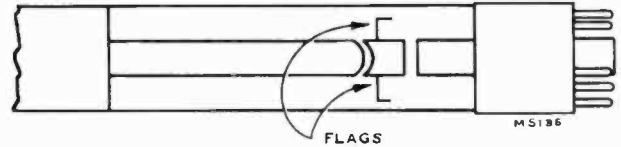

Figure 5—Ion Trap Flags
**ION TRAP MAGNET ADJUSTMENT.**—Looking at the kinescope gun structure, it will be observed that the second cylinder from the base inside the glass neck is provided with two small metal flags, as shown in Figure 5.